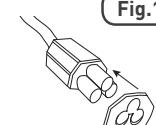

Fig.1
- ⚠ ALS DE KACHEL IN EEN RUIMTE WORDT GEBRUIKT WAAR HIJ IN CONTACT MET WATER KOMT, EN OM ERVOOR TE ZORGEN DAT DE IP44 CLASSIFICATIE BEHOUDEN BLIJFT, DIENT ER ALTIJD VOOR GEZORG'D TE WORDEN DAT HET ELEKTRICITEITSSNOER IS VOORZIEN VAN DE ZWARTE FOAMPACKING AAN DE CONTACTZIJDE VOORDAT DE SLIMLINE KACHEL OP HET ELEKTRICITEITSNET WORDT AANGESLOTEN [FIG. 1]